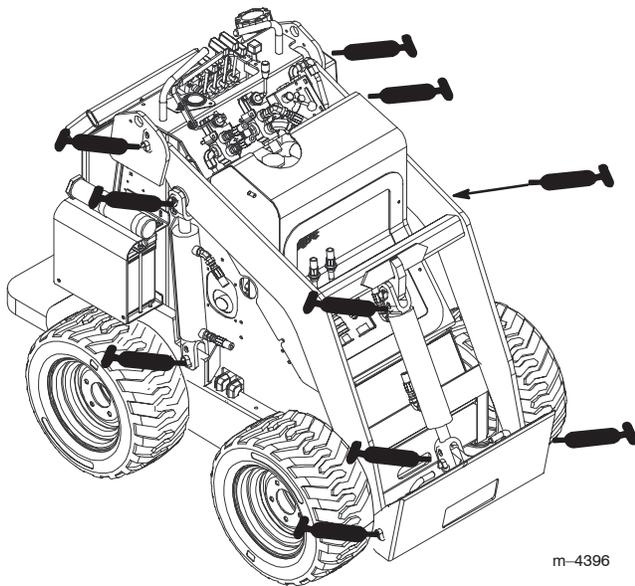

Figure 20
3. Connect a grease gun to each fitting (Fig 20 and 21).